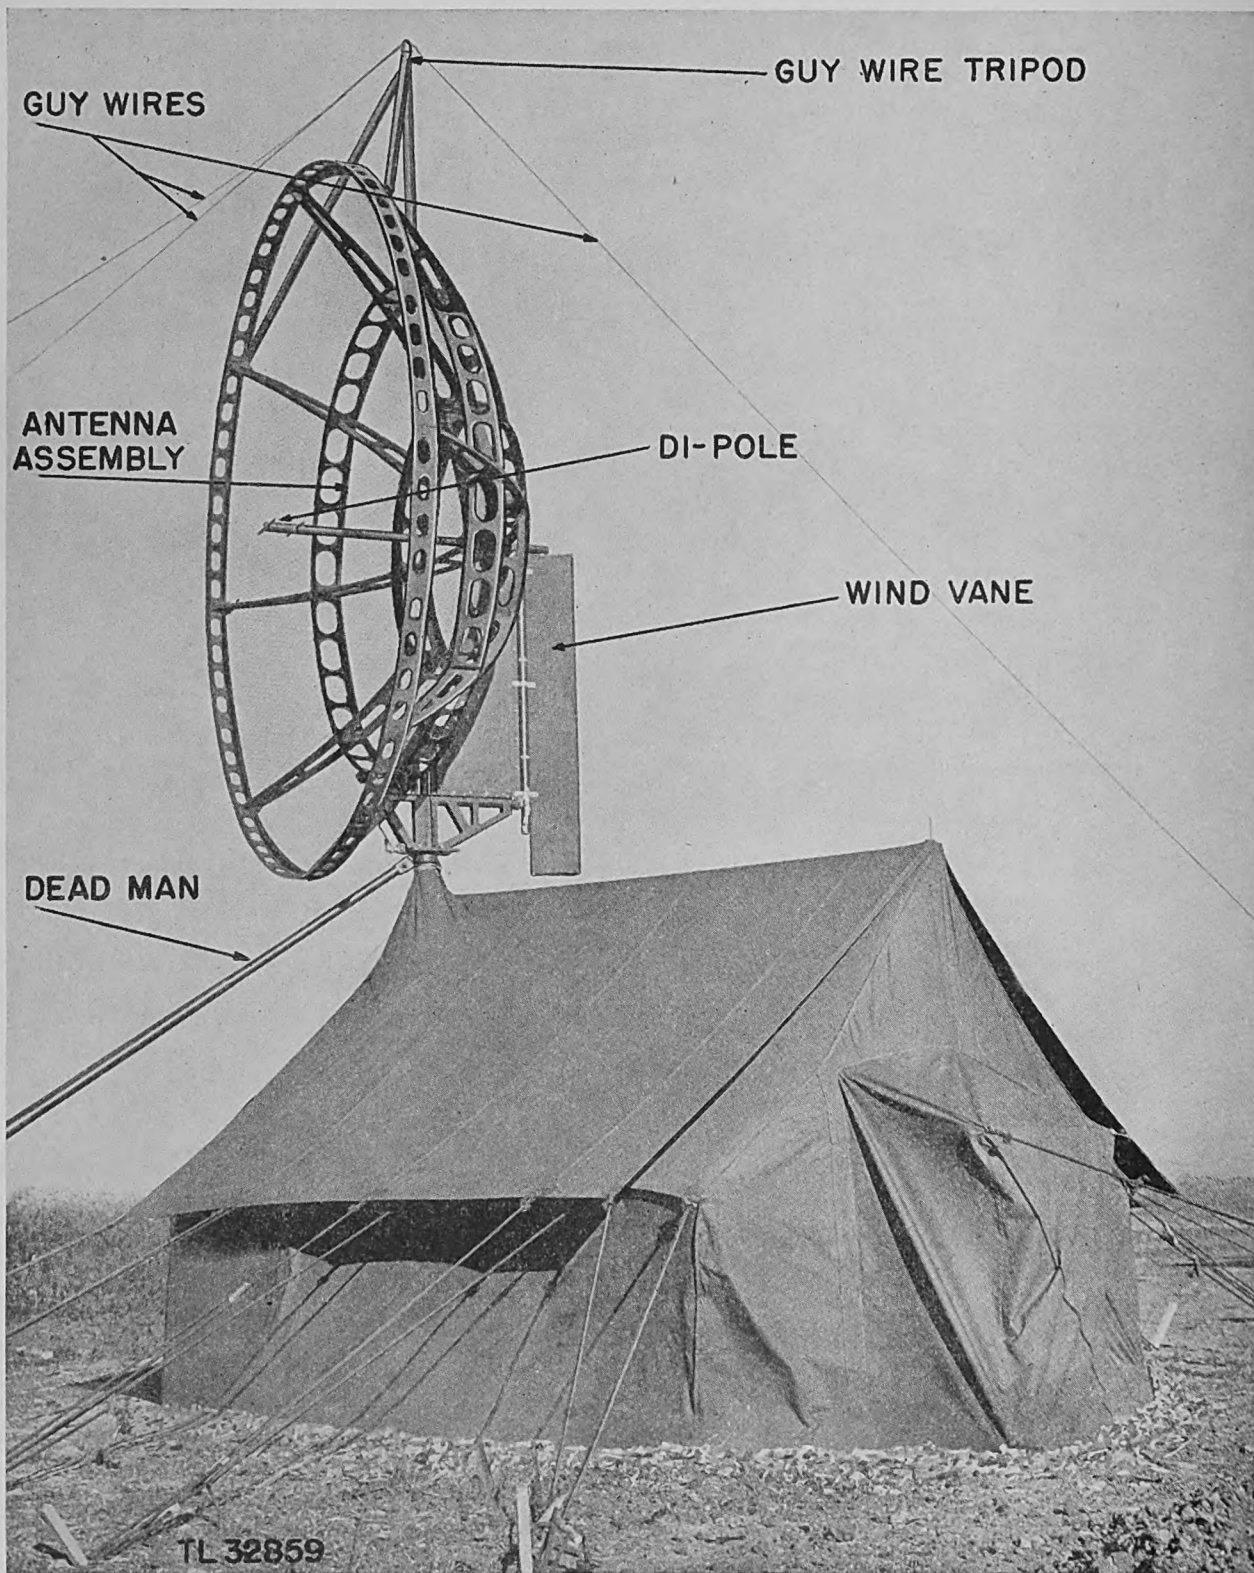

Figure 1. Radio Set AN/TPS-3.
b. Description. This set consists of a main console (fig. 2), an r-f plumbing system, and a dipole antenna using a parabolic reflector. The console with its feeder system forms one leg of a tripod. The other two legs of the tripod are wooden members, called "deadmen". These deadmen are anchored in the ground and provide support for the antenna. As added support, the antenna is guyed at the top by three wires fixed by ground stakes. The entire system with the exception of the antenna is housed in a wall tent (fig. 1). When delivered, the radio set comes packed in heavy export shipping crates. Inside the heavy packaging are light-weight air-transit cases. These transit cases are suitable for carrying the set by hand or for loading it into aircraft for air-transport.
c. Wall Tent. (1) The tent used with Radio Set AN/TPS-3 is provided with a light-proof entrance, an opening for a ventilating fan, and two console-ventilating boots. These boots are attached to the two exhaust ducts on the console.
(2) For ventilating purposes the tent is provided with a fan which draws air through the entrance, the tent, and out the other side at the top of the tent. In cold climates the boots are not connected to the console ducts, and the heat dissipated by the set is used to warm the tent.
(3) The tent is provided with a sod cloth which should be buried with the dirt removed in digging the drainage trench around the tent. This cloth